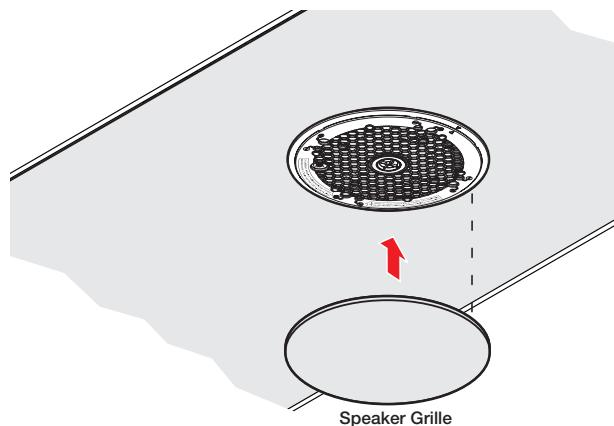

Figure 4. Install the Grille
3. Install the grille. Position the grille so that it covers the baffle of the speaker (see figure 4). Six small magnets secure the grille in place.